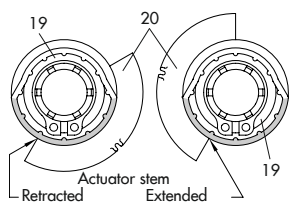

Fig. 5-7: Contact cams and cam holder
3. Unscrew fastening screws. Slide the actuator board (12) from its guiding to the right. Slightly lift the board and continue pushing it further towards the cable entry.
4. Clip the spindle gear (2) onto the sleeve (13). Make sure the side latch is properly engaged in the groove of the sleeve.
5. Slide the intermediate gear (1) onto the spindle 1 (11.1), mount the serrated ring (3) and push it down as far as it will go.
6. Slide adjustment gears (18) onto their spindles and fasten with one screw each. Check whether the adjustment gears can be turned easily. If not, slightly loosen its screw again.
7. Align the contact cam unit (21): To do this, turn both contact cams (19) on the cam holder (20) as illustrated in Fig. 5-7 corresponding with the position of the actuator stem.